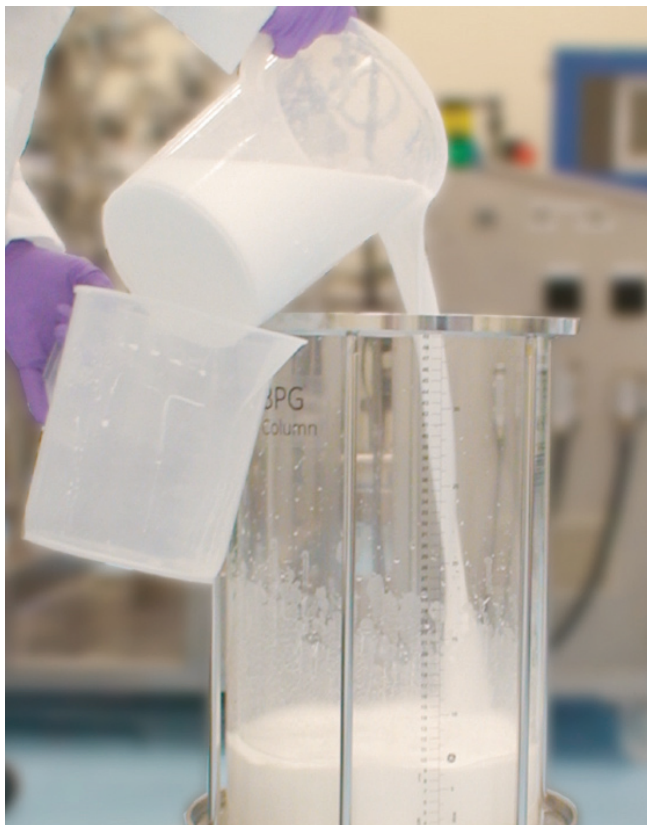

Fig. 3. Transfer prepared slurry to open column system manually, as shown, or with a pump.
- To pack with a prepared slurry, use the CHT ceramic hydroxyapatite instruction manual to calculate the appropriate slurry percentage and volume. Carefully transfer the slurry by pouring (Figure 3) or by using a diaphragm pump